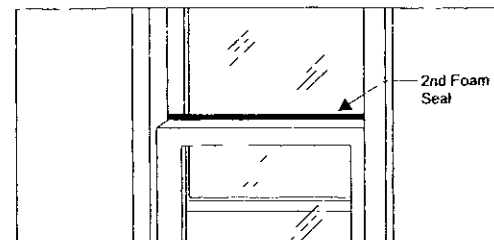

Fig 18
A. Cut the **second foam seal** to fit the opening between the top of the inside and outside window. See (Fig 18).